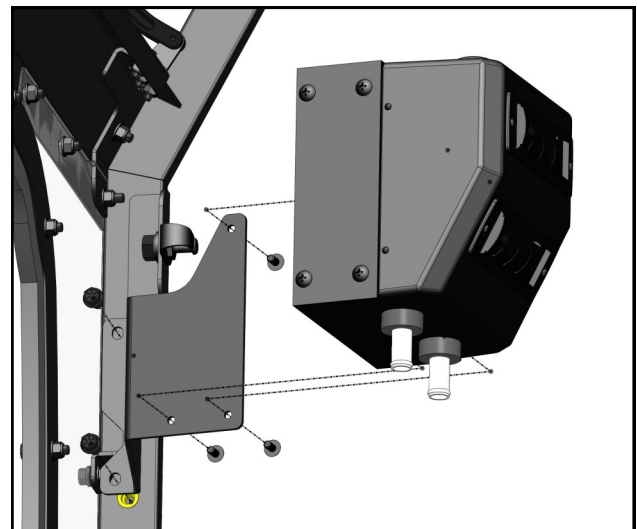

Fig. 12.1 (Heater)
12.1 Attach the heater bracket to the right A-Pillar. See Figure 12.1. Tighten hardware.
12.2 Attach the heater to the heater bracket using the screws already installed on the side of the heater. See Figure 12.1. Tighten hardware.